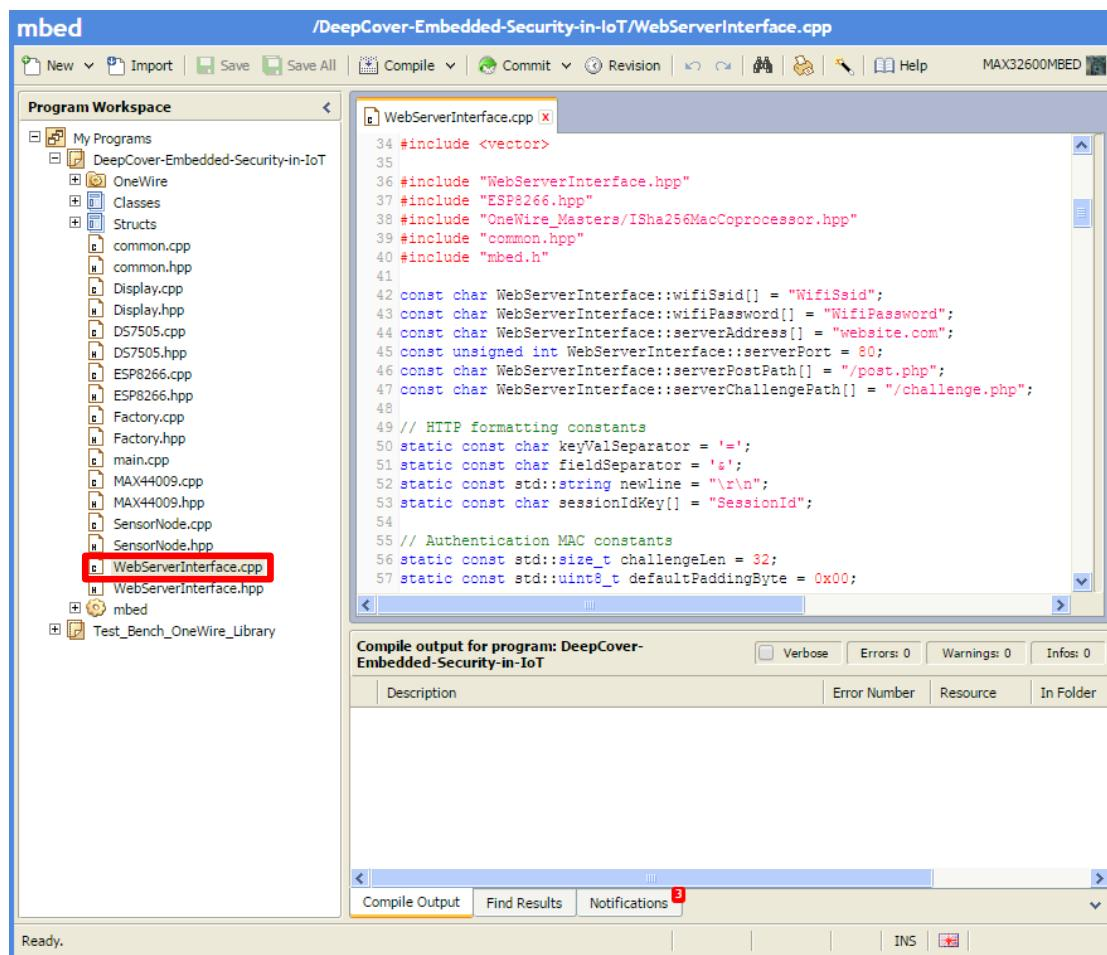

Figure 3. Web Server Interface source file.
3. Open the source file **WebServerInterface.cpp** in the imported copy of **DeepCover-Embedded-Security-in-IoT** (Figure 3).